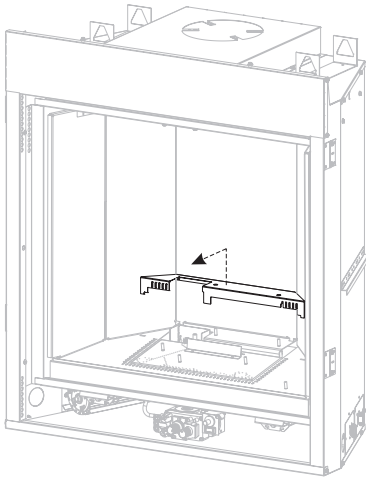

Figure 7
4. Remove the modern cover by lifting off. See Figure 7. (At installation modern cover is behind valve)
22. Replace modern cover removed in step 4. **See Figure 7.**